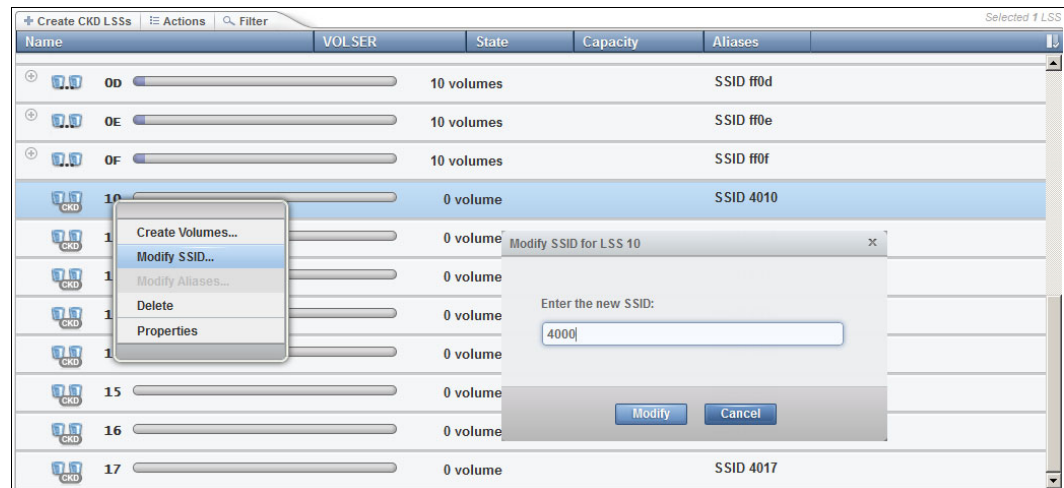

Figure 11-76 Modify the CKD LSS SSID
- The unique SSID for each LSS is automatically determined by combining the SSID prefix with the ID of the LSS. The SSID can be modified if needed as shown in Figure 11-76.